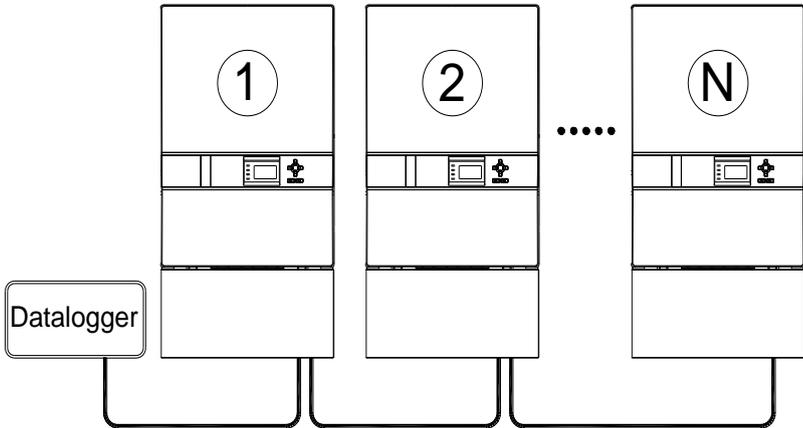

Figure 3-20 R485 network connection
When the inverters are monitored via the RS485 communication, the unique RS485 address for each inverter can be set through the LCD interface. Up to 31 inverters can be connected together in the RS485 communication network. The Daisy-chain topology is recommended for the RS485 network connection, as shown in Figure 3-20. Other communication topologies, such as the star networks, are not recommended.
(4) A terminal resistance of 120 ohms connected between Pin 1 and Pin 3 of RS485-1/2 of the first inverter in the multiple inverters string and data logger as shown in Figure 3-20 is recommended.